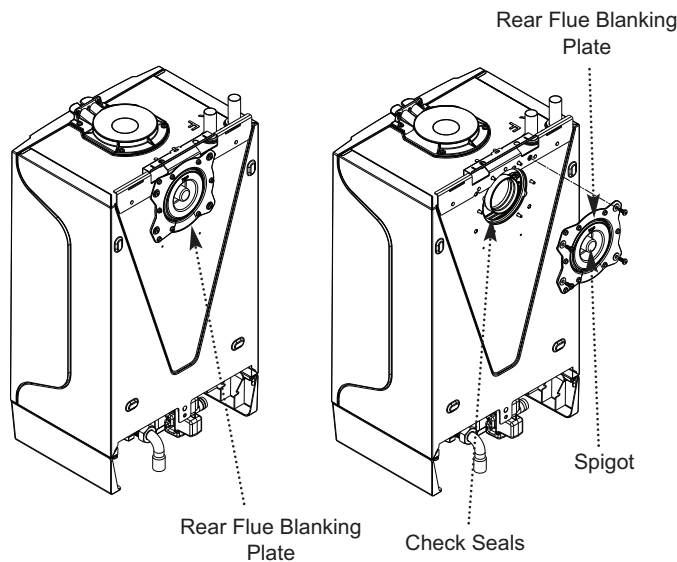

Fig.37
9. Undo the screws securing the rear flue blanking plate. Firmly grip the central spigot and pull the plate off the boiler. Ensure that the flue connection seals remain in place (Fig. 37).